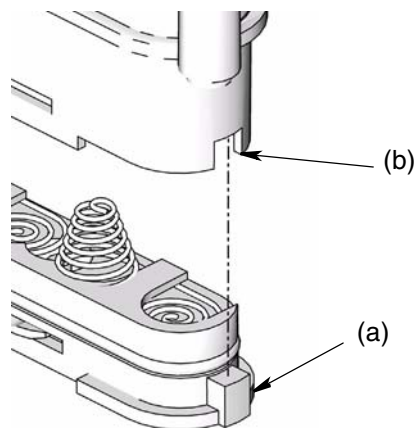

FIG. 38
4. Replace cover. The cover is designed to only fit on battery compartment one way. The notch (a) on cover fits into slot (b) on compartment. (FIG. 38).